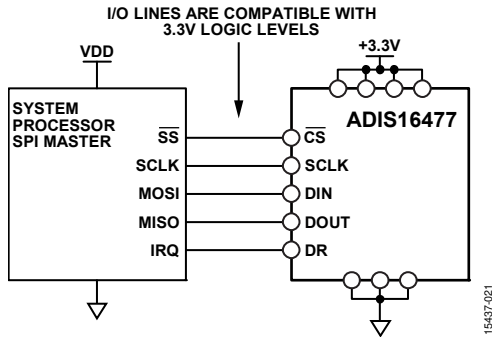

Figure 19. Electrical Connection Diagram
The SPI provides access to the user registers (see Table 8). Figure 19 shows the most common connections between the ADIS16477 and a SPI master device, which is often an embedded processor that has a SPI-compatible interface. In this example, the SPI master uses an interrupt service routine to collect data every time the data ready (DR) signal pulses.